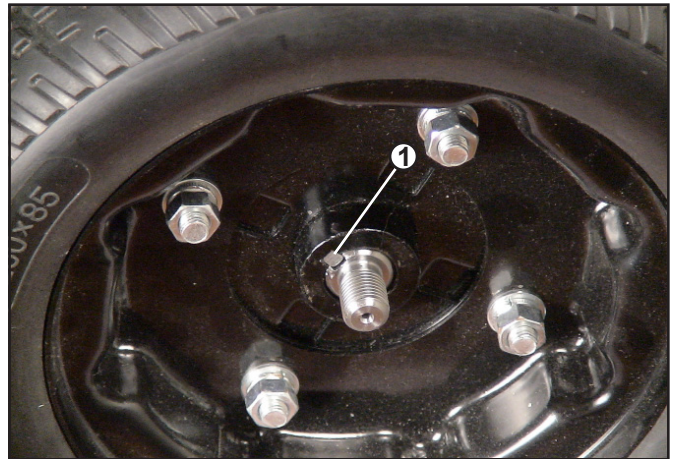

Figure 22. Drive Wheel Axle Key
4. Remove the nut and washer that fastens the wheel to the axle. *Make sure you retain the axle key. (See #1 on figure 22.)*